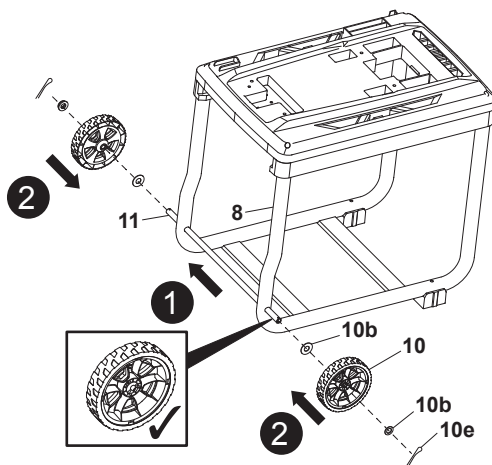

Fig. 2
1. Align and pass the wheel axle (11) through the two side mounting holes of the frame (8) (Fig. 2, step 1). Ensure that the wheel axle (11) is centred.
2. Attach the washer (10b), the wheel (10) and the washer (10b) onto the wheel axle (11) (Fig. 2, step 2). Ensure that the wheel (10) is correctly oriented before assembly.
3. Secure the connection by passing R-clip (10e) through the holes of wheel axle (11) (Fig. 2, step 3). Use pliers (not supplied) to open the end of the R-clip to avoid its slippage.
4. Repeat the wheel assembly on the other side of wheel axle (11).
5. Check whether the both wheels (10) run smoothly on the wheel axle (11).